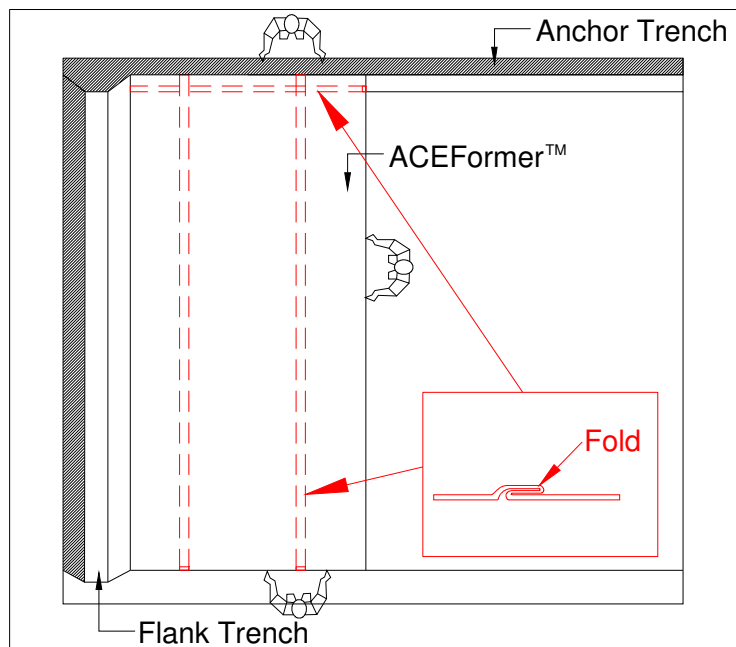

Figure 6. Recommended folding positions
- b. Fold ACEFormer™ (as shown in picture 3 and figure 6) to provide space for contraction and expansion during the filling and forming process. Do not lay and fix ACEFormer™ tightly to the work surface, for damage may occur during the filling process and the filling may not achieve the required height. The width of folding varies with the type of ACEFormer™. Consult ACE technical staff for the detail.